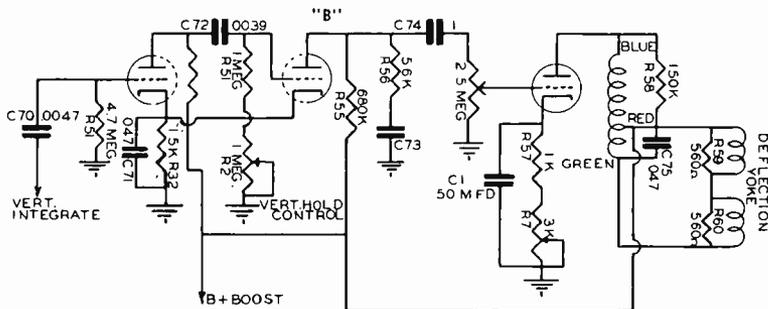
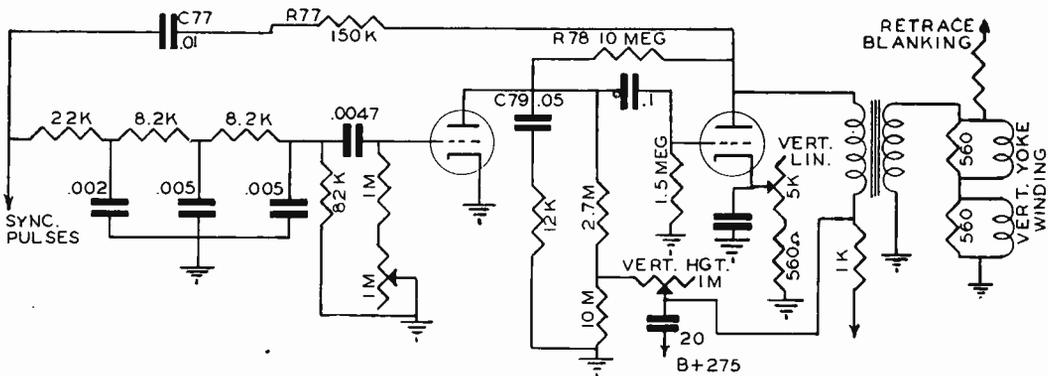

FIG. 3. Multivibrator and a Triode Output stage.
FIG. 6. Single dual triode used as a combined Multivibrator and Output Stage.
A multivibrator type oscillator coupled to a typical output stage similar to that previously described is illustrated in Fig. 3. Extra damping for the vertical output stage is obtained from the 150K resistor, R58, that is connected across the upper section of the vertical output auto-transformer.
cathodes and returning to B— through a common resistor R32. The plate circuit of the section marked B (in Fig. 3) of the multivibrator forms the vertical sawtooth across the RC network of R56 and C73. The operating frequency of the vertical oscillator is determined by the setting of R2. Adjustment of this control charges the RC time constant of the grid circuit in Section B of the multivibrator.
- B. Open coupling capacitor (See C154 in Fig. 1) C72 and C74 in Fig. 3; C2, C3 and C5 in Fig. 4; C83, in Fig. 5; or C77 and C78 of Fig. 6.